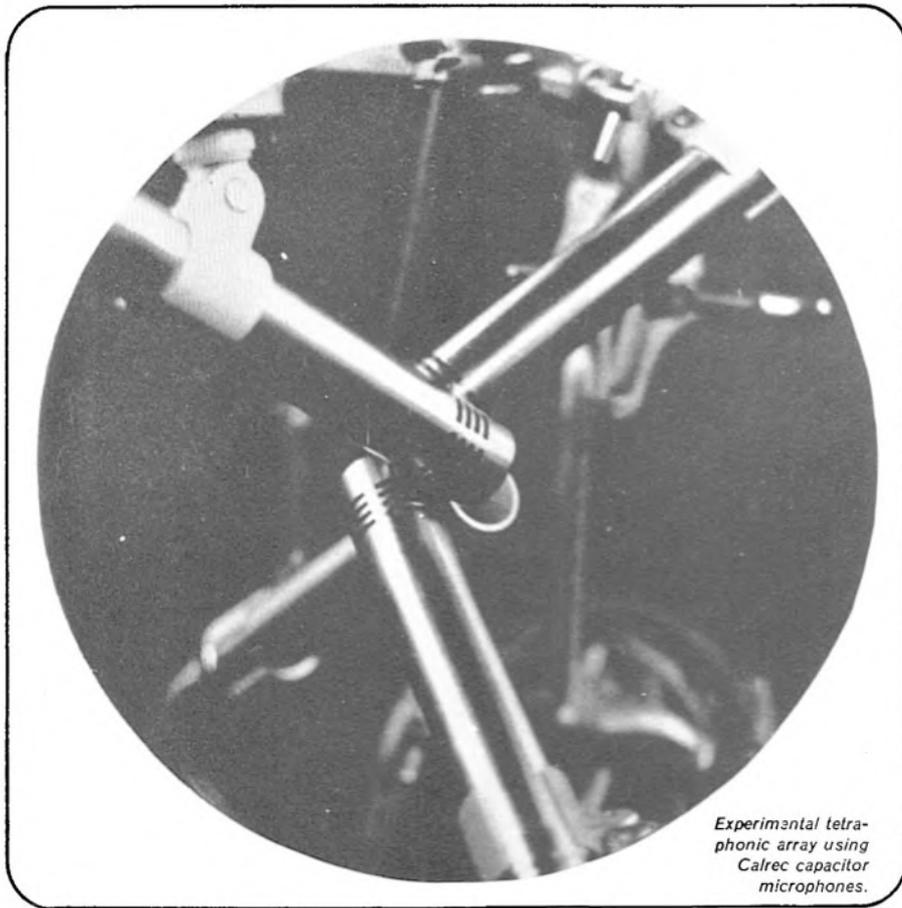

FIG. 4 V-SHAPE FORMED BETWEEN PAIR OF TETRAHEDRAL MICROPHONES SHOWING ALIGNMENT TEMPLATES
The subsequent discussion assumes that the microphones used have a cylindrical shape with the capsules mounted at one end, as in the AKG C451, Calrec 652 and Calrec 1050 microphones. The simplest way of making such microphones 'coincident' is to make them face into one another, but this would cause a tetrahedral cavity to be formed between them which would cause coloration. To avoid this, it was deemed necessary (perhaps wrongly!) to use the type of 'coincidence' shown in the photo, in which the V-shape formed by one pair of microphones (as in fig. 4) interlocks
(1) The angle between every pair of microphones should be  $109.5^\circ$ , which can be checked using  $109.5^\circ$  angle templates as illustrated in fig. 4. The lower template in fig. 4 has its angle vertex cut off to permit use when the other pair of microphones is in place.